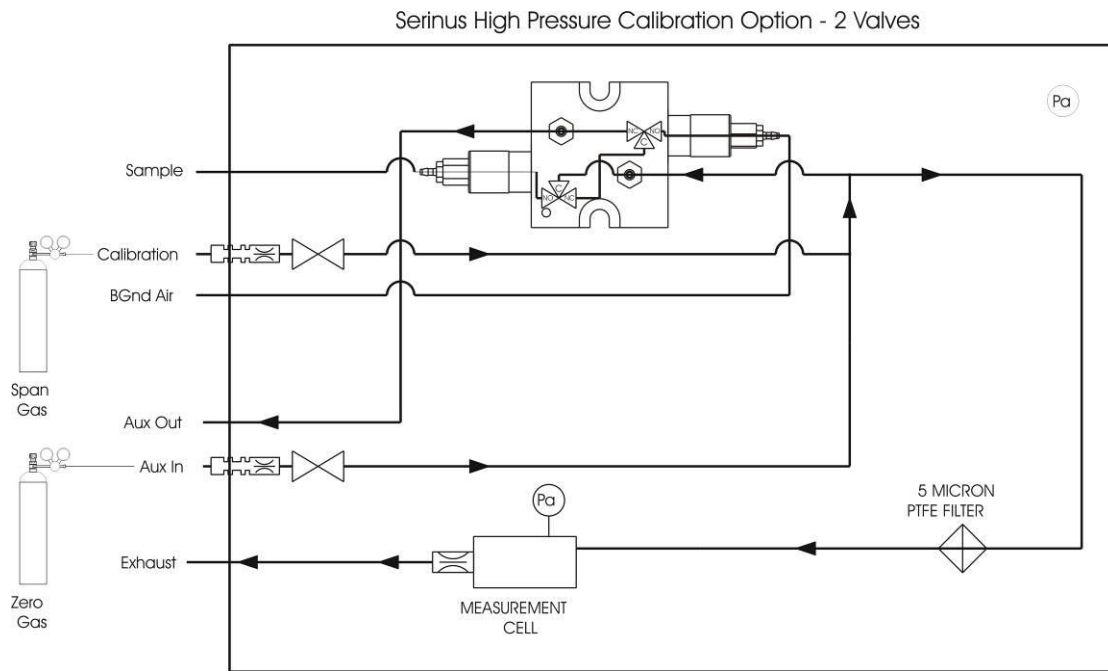

Figure 50 – Dual high pressure calibration option
2. Connect a line of stainless steel tubing between the appropriate gas cylinder and the analyser's **Ports** (refer to Figure 50).